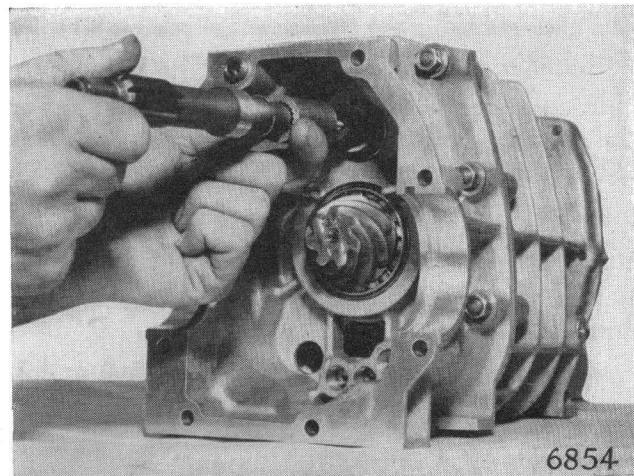

Fig. 15. Unscrew clutch shaft
Remove circlip securing clutch shaft muff (37), slide muff back and unscrew shaft (33) as shown in Fig. 15.